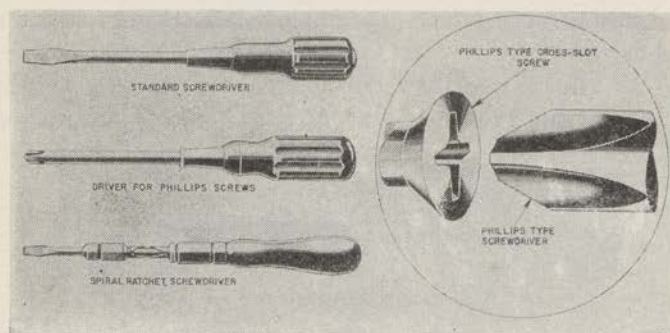

FIGURE 23.—Screw drivers.
d. *Screw drivers* (fig. 23).—Available in plain, ratchet, and spiral types, for both slotted-head and Phillips screws. With a ratchet